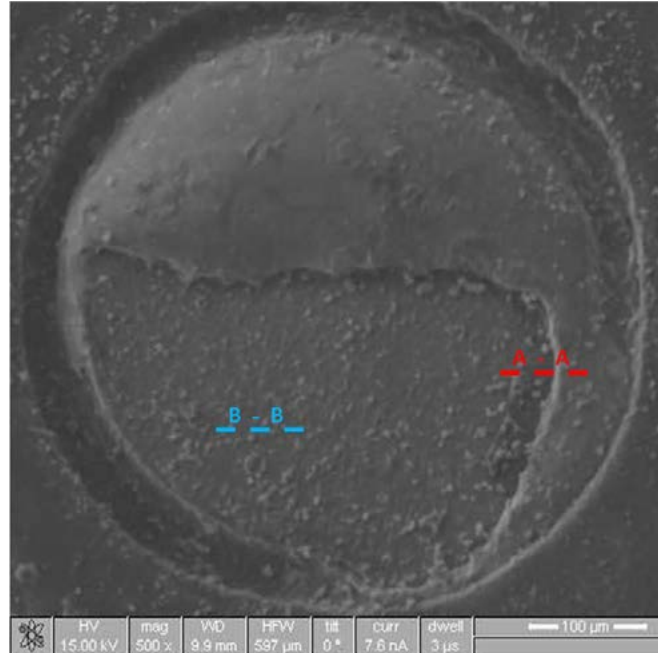
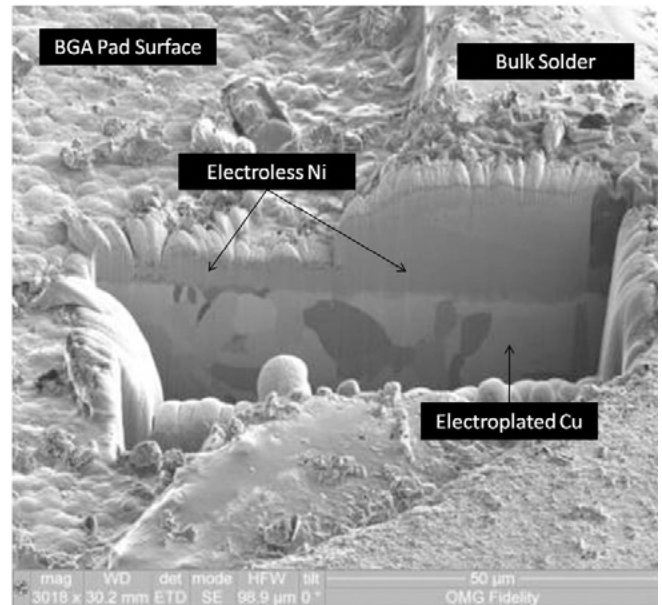

Figure 7: BGA pad with poor solderability.
Figure 8: FIB cut of the BGA pad area A.
If black pad is present, we would expect to see nickel corrosion spikes and other tell-tale artifacts during failure analysis^[6]. One of the poorly soldered BGA pads is shown in Figure 7, along with the red (A) and blue (B) lines marking the FIB cut areas; note that the BGA was removed for pad examination. The BGA pad after FIB cut is shown in Figure 8; there is no indication of electroless nickel corrosion.
The FIB cut of Figure 8 revealed an artifact in the bulk solder area that deserved further